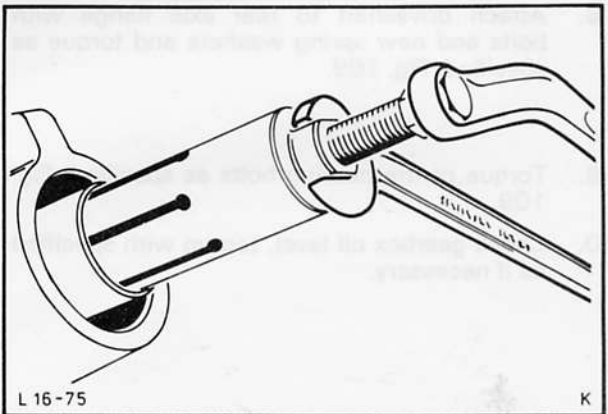

Fig. 106. Extract extension housing bush with Special Tool No. 16-011/16-025
4. Remove extension housing bush with Special Tool No. 16-011/16-025, Fig. 106.